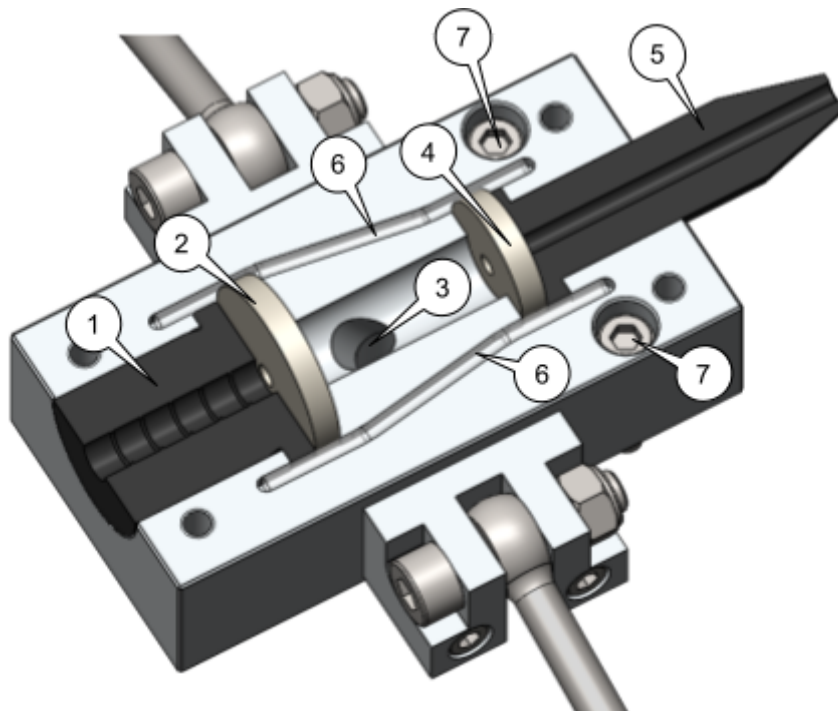

Fig. 6a The inside of the blowing head for microducts
1. Fix the casing tube into which the cable is to be blown in to the head with a replaceable clamping sleeve (1 fig. 6a).
2. The microduct compression sleeve should be selected according to the diameter of the microduct being used. Make sure that the gasket (2, Fig. 6a) is in its seat in the head, and that the tube does not obstruct the air inlet to the head (3, Fig. 6a).
3. The cable seal (4 Fig. 6a) and the cable guiding sleeve (5 Fig. 6a) should be selected according to the diameter of the blown cable.
4. Make sure that the line gasket (6 fig. 6a) is correctly positioned on both sides in the groove.
- Lead the cable between the drive belts and insert a few meters into the conduit. Before that, put a properly selected gasket on the cable (4 Fig. 6a)